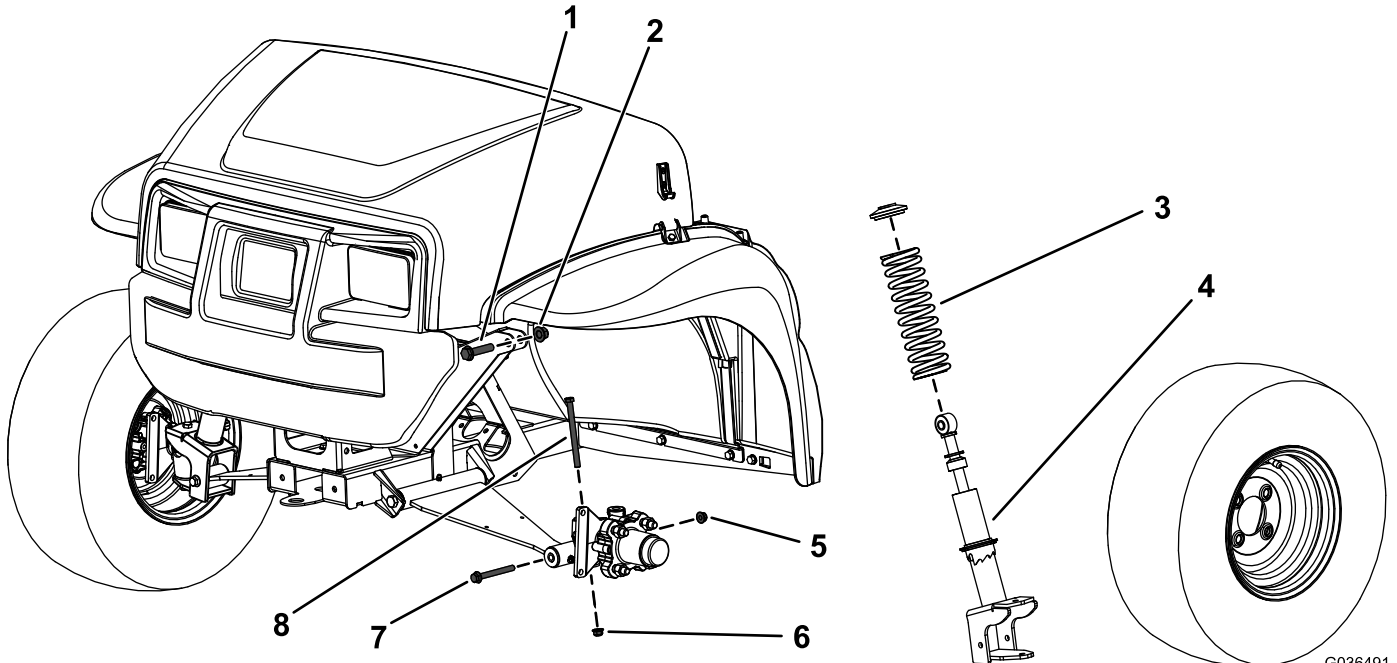

Figure 1
2. Remove the hex-head bolt (3/8 x 4-3/4 inches) and flange nut (3/8 inch) from the spindle (Figure 1).
3. Remove the hex-head bolt (3/8 x 3-1/2 inches) and flange nut (3/8 inch) from the control arm (Figure 1).
4. Remove the hex-head bolt (1/2 x 2-1/4 inches) and locknut (1/2 inch) securing the strut assembly to the upper frame (Figure 1).
5. Remove the strut assembly (Figure 1).
3. Remove the spring from the strut assembly (Figure 1).
4. Install the new spring over the existing strut assembly (Figure 1).
2. Secure the upper portion of the strut assembly to the frame using the upper, hex-head bolt ($1/2 \times 2-1/4$ inches) and locknut ($1/2$ inch) as shown in Figure 1.
4. Install the hex-head bolt ($3/8 \times 4-3/4$ inches) and flange nut ($3/8$ inch) to the spindle (Figure 1).
6. Secure the lower portion of the strut assembly to the control arm using the hex-head bolt ($3/8 \times 3-1/2$ inches) and flange nut ($3/8$ inch) as shown in Figure 1.